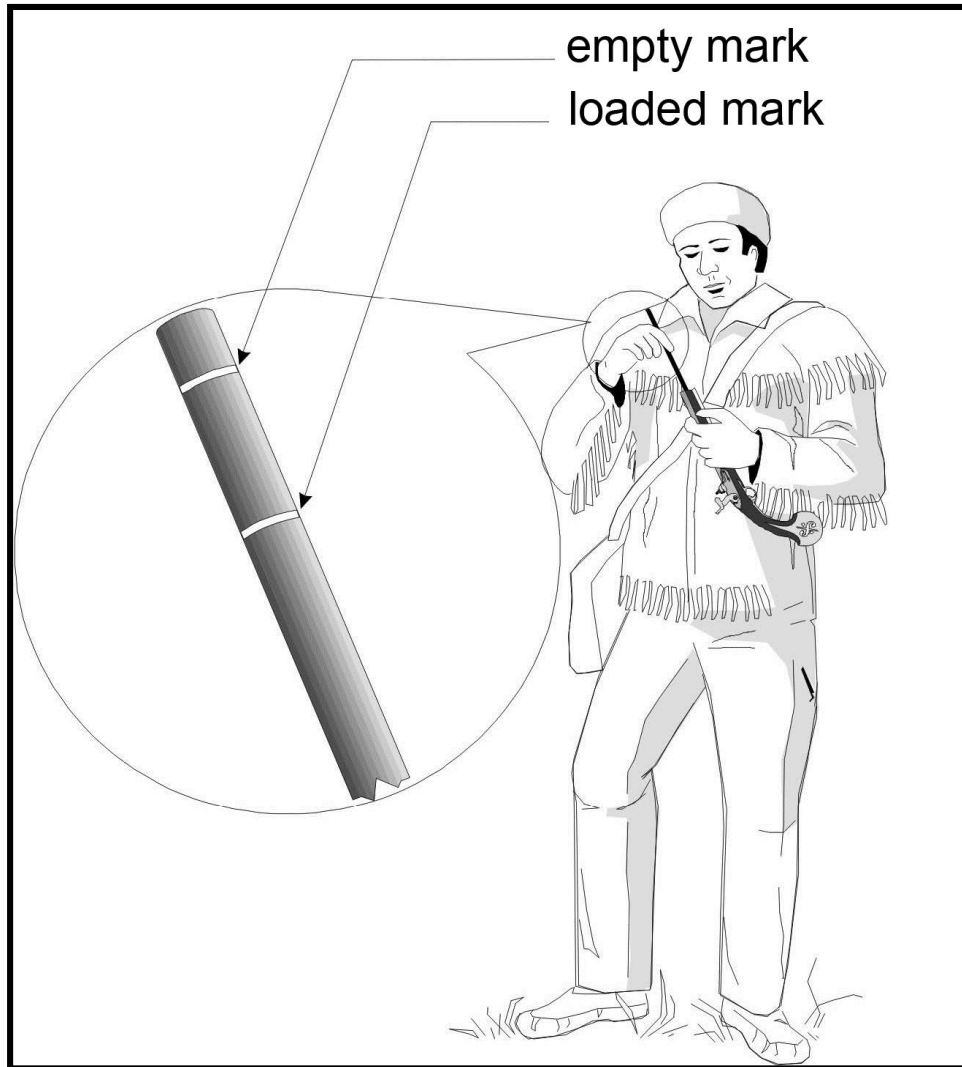

Figure 88. Correctly Marked Ramrod
- c. In addition, it is difficult to tell if there is already a charge loaded into the barrel of a muzzleloader. Shooters should mark the firearm's ramrod at a level that shows the bore depth when the bore is empty (Figure 88). When the marked ramrod is inserted into the barrel, it shows whether or not the firearm is loaded.